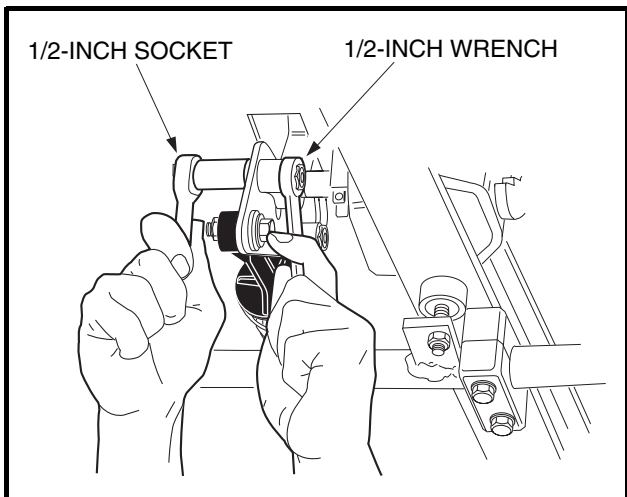

**Figure 5-26 Ratchet/Pawl Tooth Engagement**
- 3.4. With the park brake locked, make sure at least 75% of ratchet tooth length engages the pawl (Figure 5-26, Page 5-18). Tooth engagement should be between the two lines marked on the pawl.